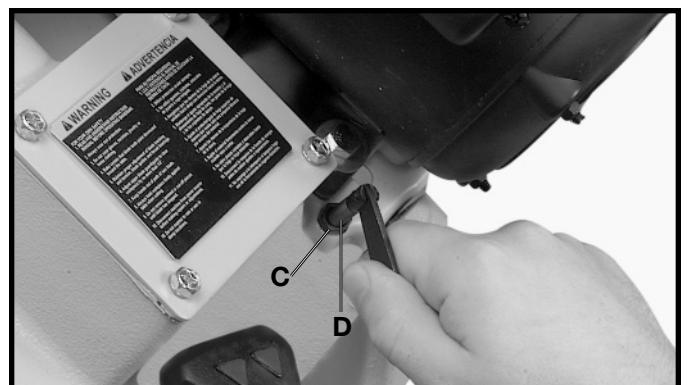

Fig. 29
Proper belt tension is obtained when there is approximately 1/4" deflection of the belt using light finger pressure at the center span of the pulleys. To adjust belt tension, loosen lock nut (C) Fig. 29, and turn adjusting screw (D) clockwise to increase tension and counterclockwise to decrease tension. Tighten locknut (C) Fig. 29, after belt tension is obtained.